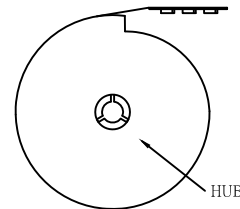

Fig.2
- (2) At the beginning of winding belt,take one part of sticky belt with 60 mm length,15mm width. stick 20 mm on the material belt,stick 40 mm on the gap of the REEL mandrel , as shown in Fig.2.